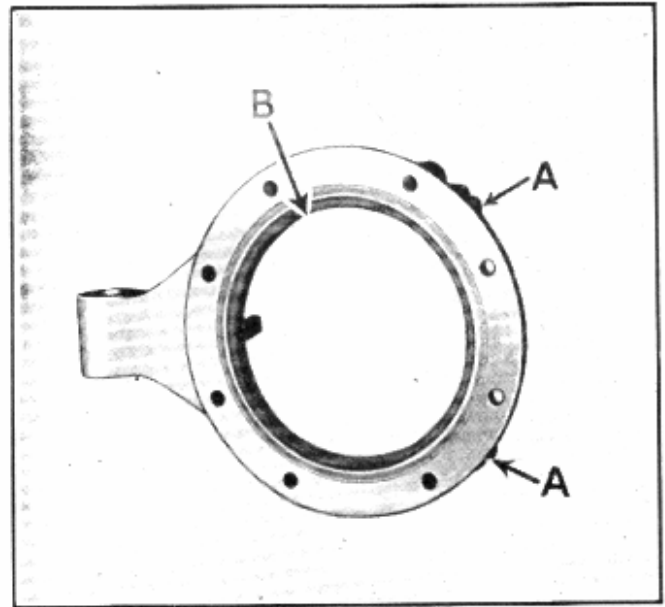
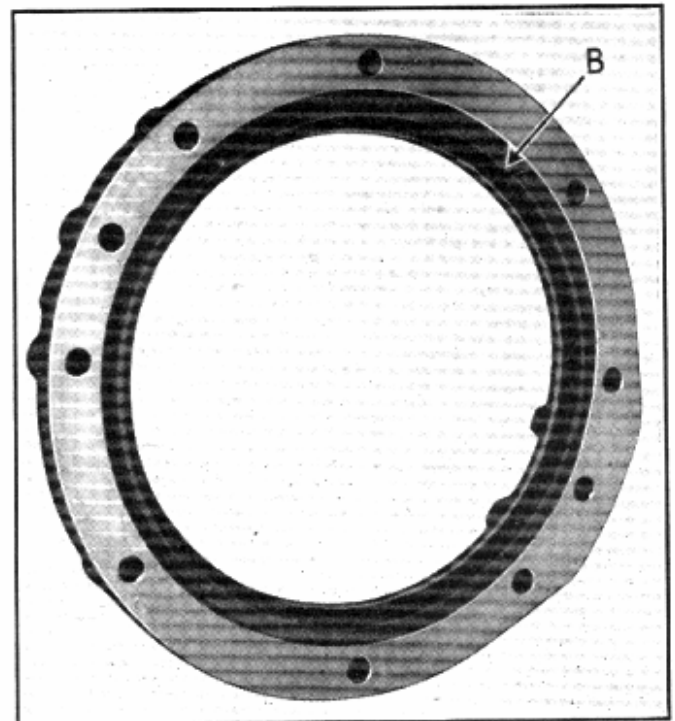

Fig. 13—Steering Knuckle Retainer Flange 5" Joint
Fig. 14—Steering Knuckle Retainer Flange 6" Joint
6. The steering knuckle retainer flange as used on the 5" joint, (Fig. 13), is in two halves and is removed by taking out the two screws "A", allowing the two halves to separate. The retainer flange as used in production on the 6" joint is of one piece construction. (Fig. 14). To facilitate installation service replace-
7. The felt seal shown at "B" Figs. 13 and 14 is used on the retainers of the 5" and 6" joints and should be replaced at any time the retainer is removed. A waved spring is located under the felt seal. When replacing these parts follow the instructions covered under, "Steering Knuckle Retainer Flange Felt Seal and Spring Replacement 5" and 6" Joints."
Should it become necessary to replace the original one-piece retainer as used in production, Fig. 14, this can be performed without completely disassembling the steering end. The following is the recommended procedure.
6. Assemble the two halves of retainer over housing and install the two retaining cap screws shown at "A", Fig. 13. Tighten the cap screws just sufficiently to compress the lock-washers slightly.